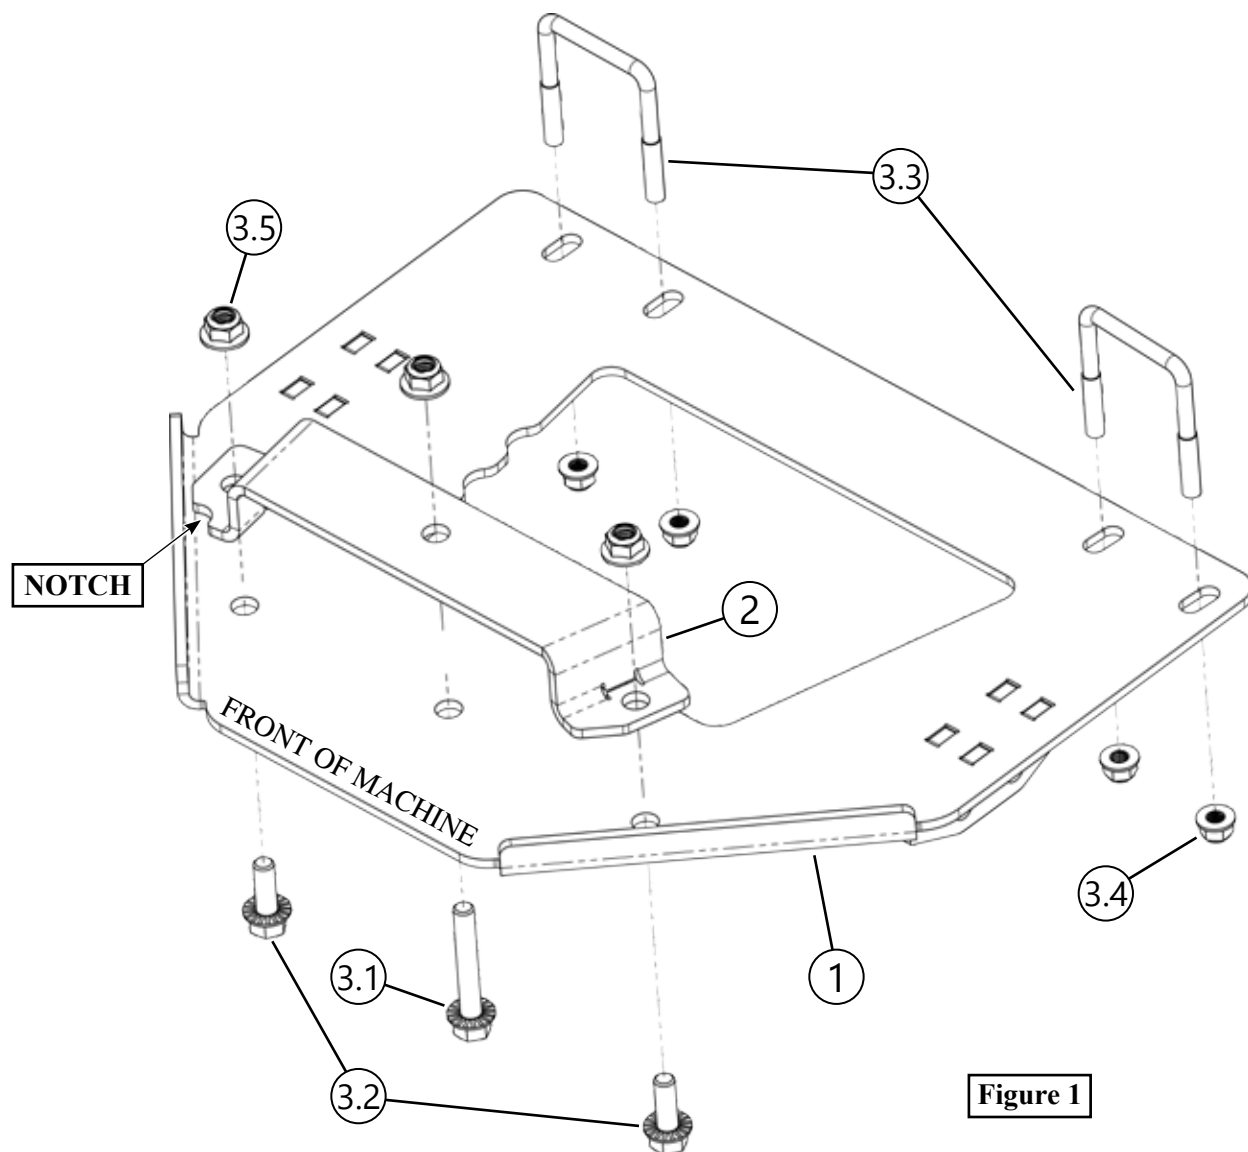

Figure 1
2. Place Frame Bracket (2) on top of the frame. The notch should be on the passenger side of the machine like shown in **Figures 1 and 3**.